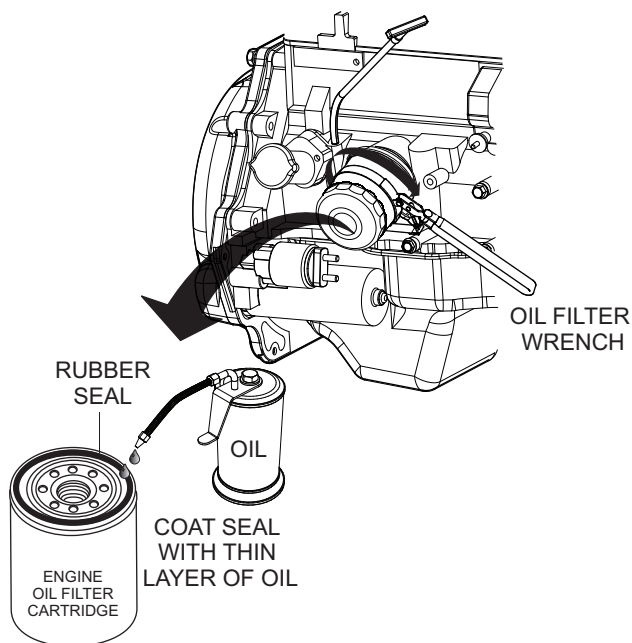

Figure 42. Engine Oil Filter Removal
2. Using an oil filter wrench (Figure 42), remove engine oil filter.
3. Coat the rubber seal (gasket) surface of oil filter (Figure 42) with clean 15W-40 engine oil.